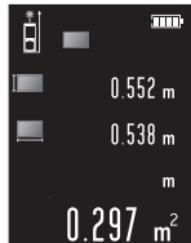

Fig. 1
Step1 – Get first area result as Fig1